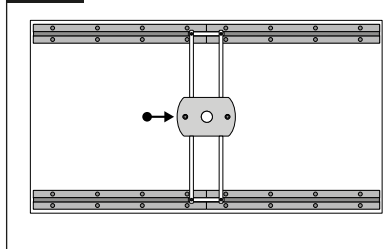

Fig. 5c
- Secure second front rail with one screw in left hand hole. – (Fig. 5c)